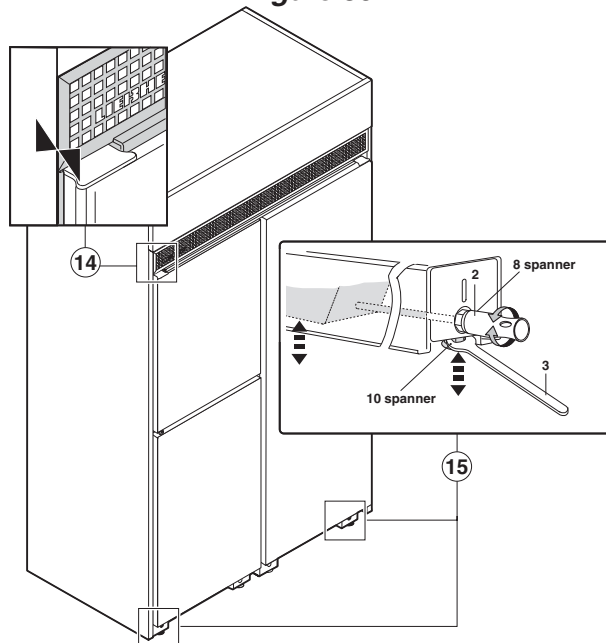

Figure 31
14. **Figure 31:** Carefully slide the connected appliances into the recess until the ventilation grille touches the top.